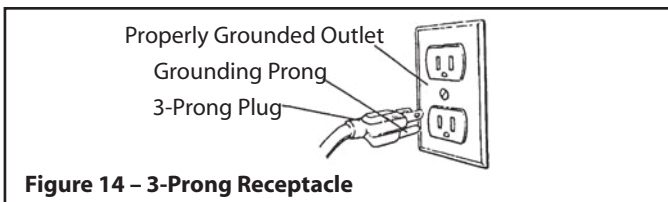
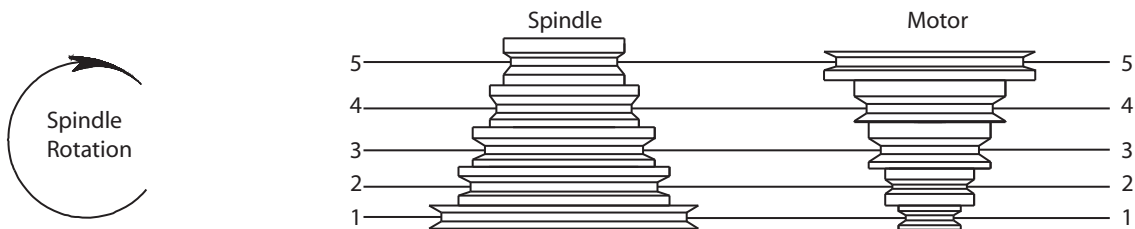

Figure 14 – 3-Prong Receptacle
Figure 17 – Spindle Speed Adjustment
This tool is equipped with an approved 3-conductor cord rated up to 150V and a 3-prong grounding type plug (see Figure 14) for your protection against shock hazards.
Grounding plug should be plugged directly into a properly installed and grounded 3-prong grounding-type receptacle, as shown (Figure 14).
- To change spindle speed, loosen motor lock knob (see Figure 14), and push the motor toward front of drill press. This will loosen the belt and permit relocating the belt to the desired pulley groove for the required spindle speed (See Figure 17).